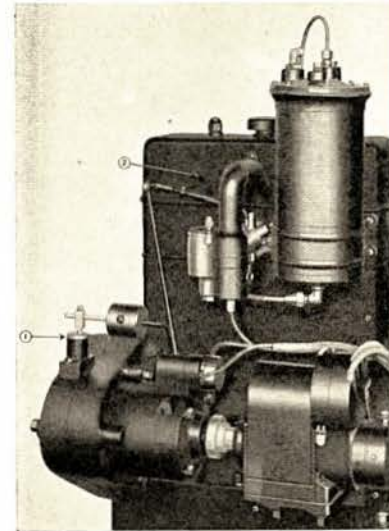

FIGURE 31
The dashpot, (1) Figure 31, serves to steady the governor. It consists of a simple cylinder mounted in an upright position on the gear housing. The cylinder is filled with oil, against which a small plunger acts, forming a cushion and giving a positive action essential for proper governor operation.
The small hole in the cylinder head cover, (2) Figure 31, is the oil sight hole. Through it is visible the end of the oil return tube. When the plant is in operation, oil will be forced from this tube, dropping into the base, thus indicating that the oil pump is working satisfactorily and that oil is being circulated, insuring proper lubrication of the machine.